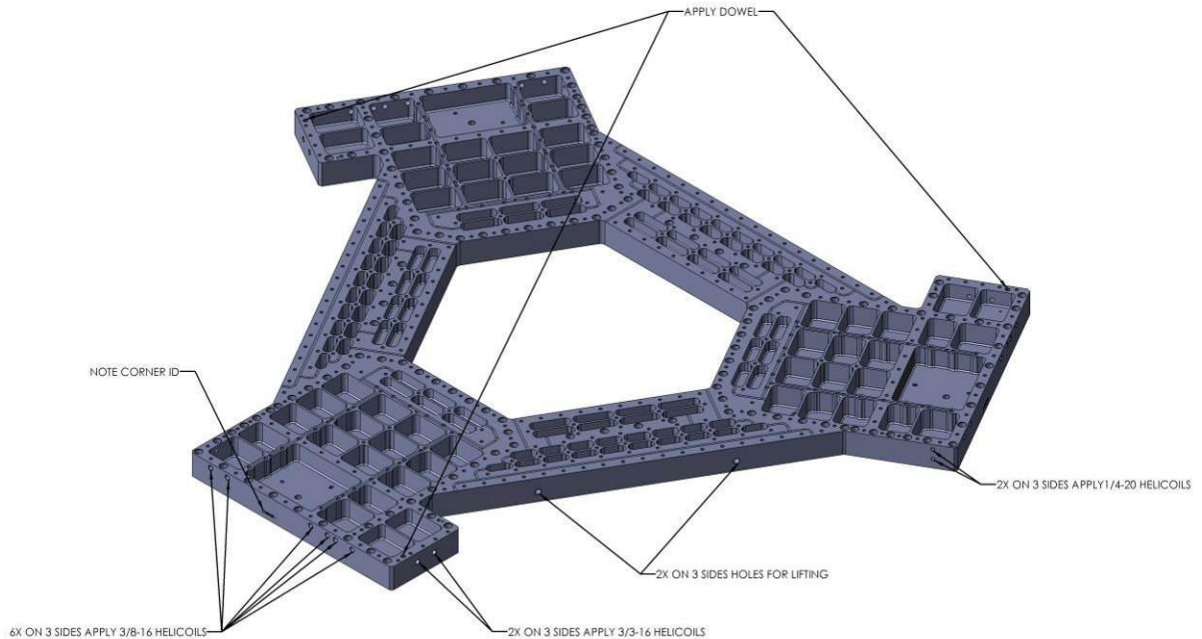

Figure 74: Prep Work for D0902273 Stage 1 Close Out Plate
(3) 3/8" x 1" dowel pins
- Install Nitronic 60 Helicoil threaded inserts into D0902273. See Figure 74.
- Press (3) 3/8" x 1" dowel pins into D0902273 as shown on Figure 74. Pins should sit about 0.4" above the surface.
- Lift D0902273 Stage 1 Close Out Plate using (3) 1/2-13 Tapped Lifting holes shown on Figure 74.